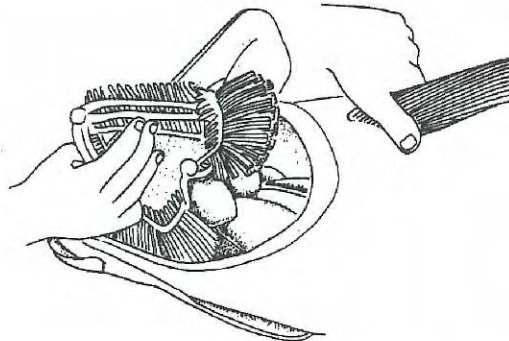

Figure 16. Remove gills and guts and any remaining attachment.
- Step 8** Pull open gill cover, and then grab the lower end of the gills. Pull and remove the gills and guts. Remove any remaining attachments (Figure 16).